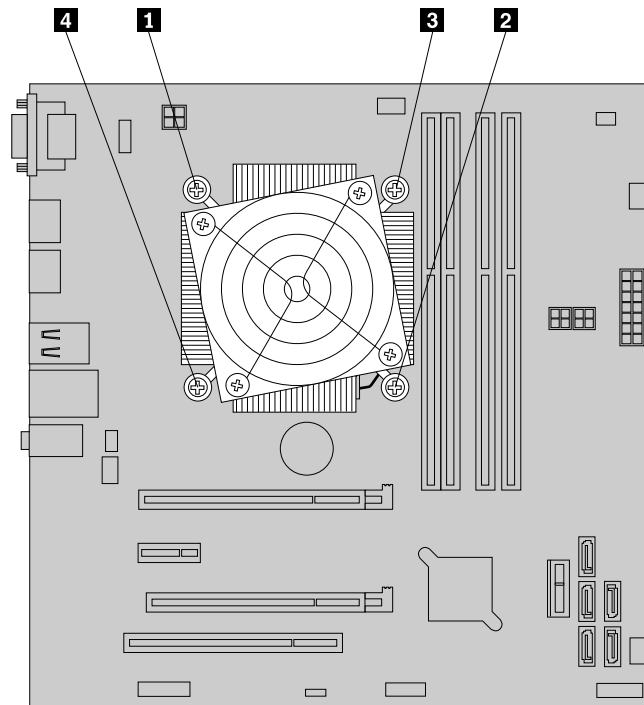

Figure 55. Removing the heat sink and fan assembly
9. Follow this sequence to install the four screws to secure the new heat sink and fan assembly. See Figure 55 “Removing the heat sink and fan assembly” on page 73.